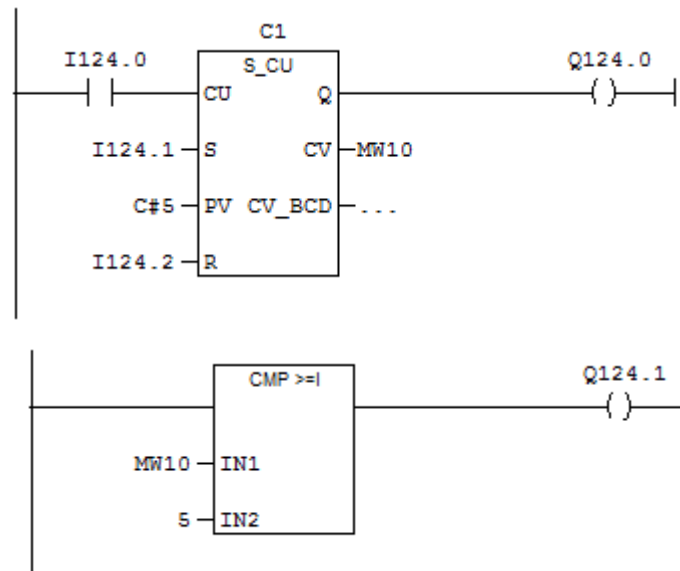

Figure 18. Ladder diagram of Counter Up
1. Configure ladder diagram for counter up as shown in Figure 18